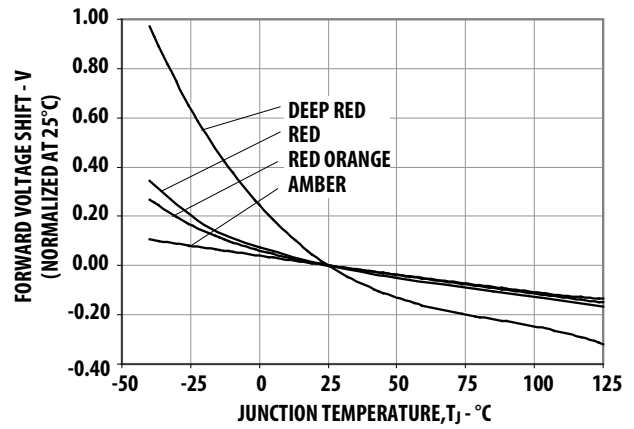
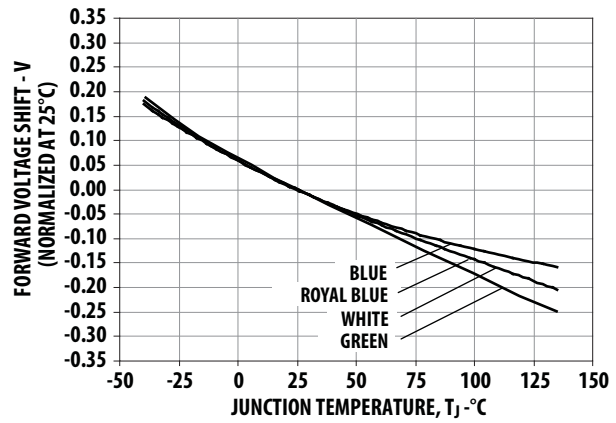

Figure 9. Forward Voltage Shift vs. Junction Temperature.
Figure 21. Forward Voltage Shift vs. Junction Temperature.
1. Derate linearly based on Figure 9 for AllnGaP and Figure 21 for InGaN.